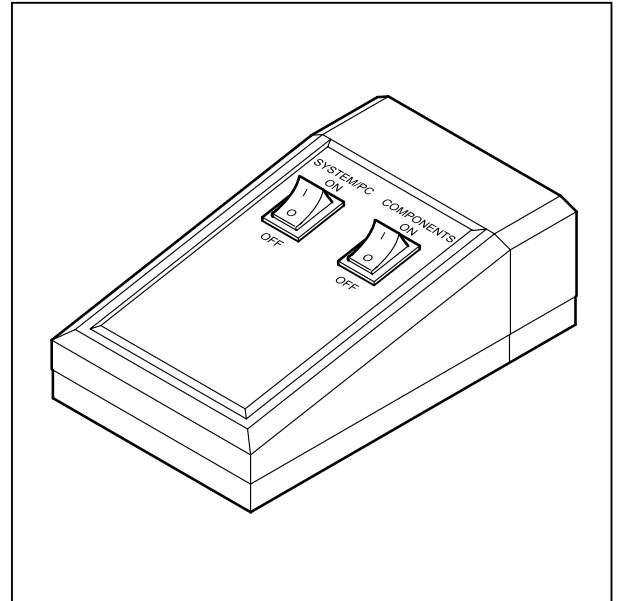

Fig. 1 REMOTE CONTROL switch
- When set to **ON** the REMOTE CONTROL switch labeled **System/PC** provides power to the microscope and the computer. This allows to use the microscope and the computer without running the LSM Software (Fig. 1).